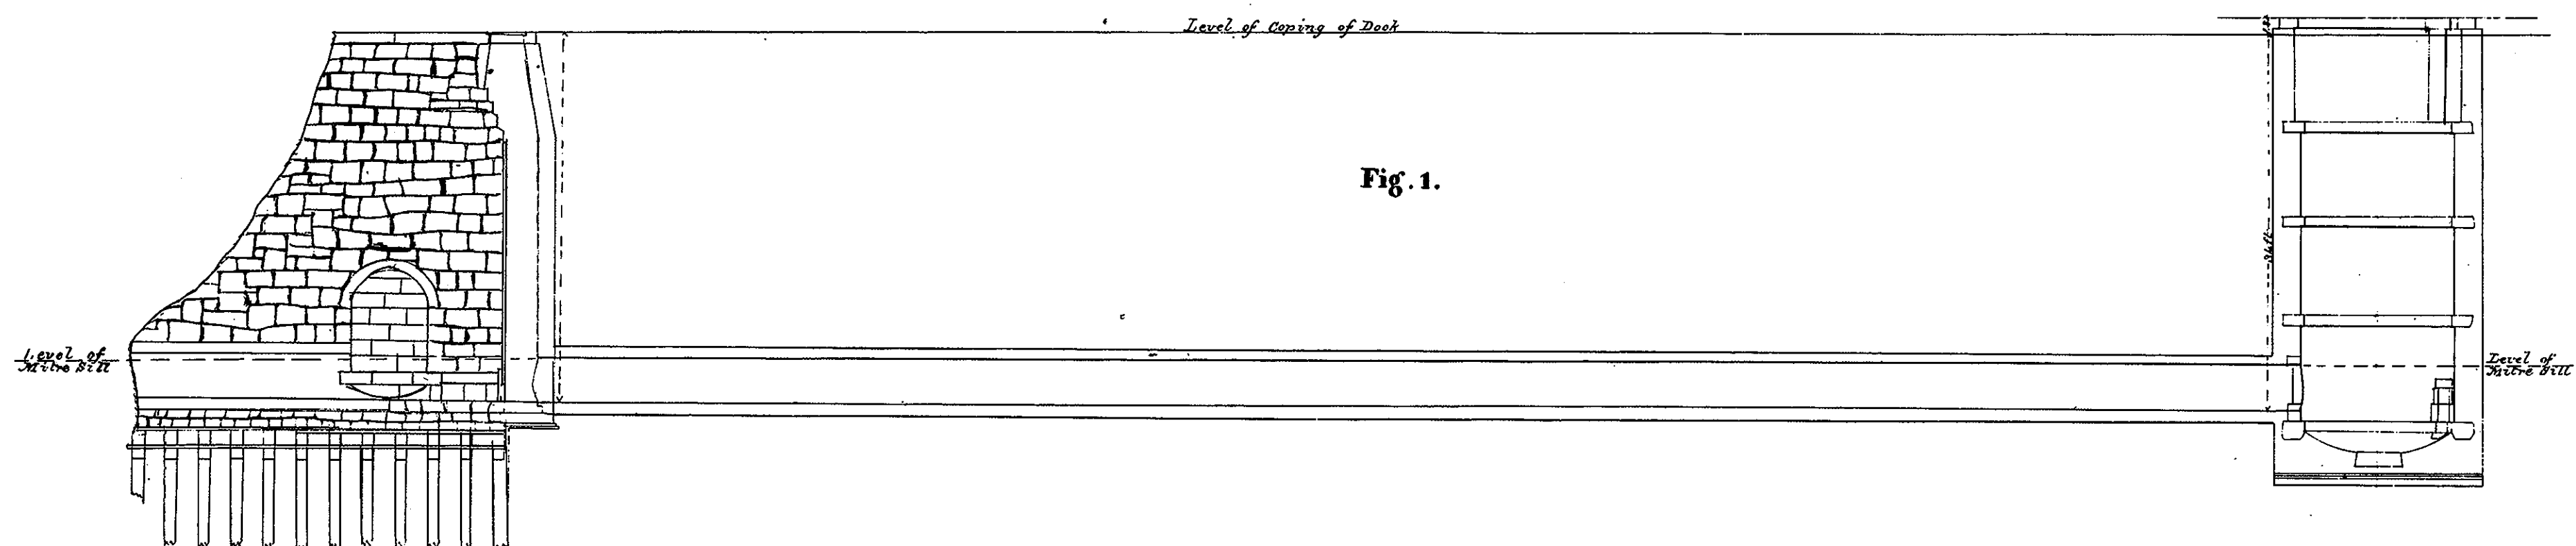

Fig. 1.
- Fig. 1. Vertical section through the centre of the Tunnel and outlet of Reservoir.